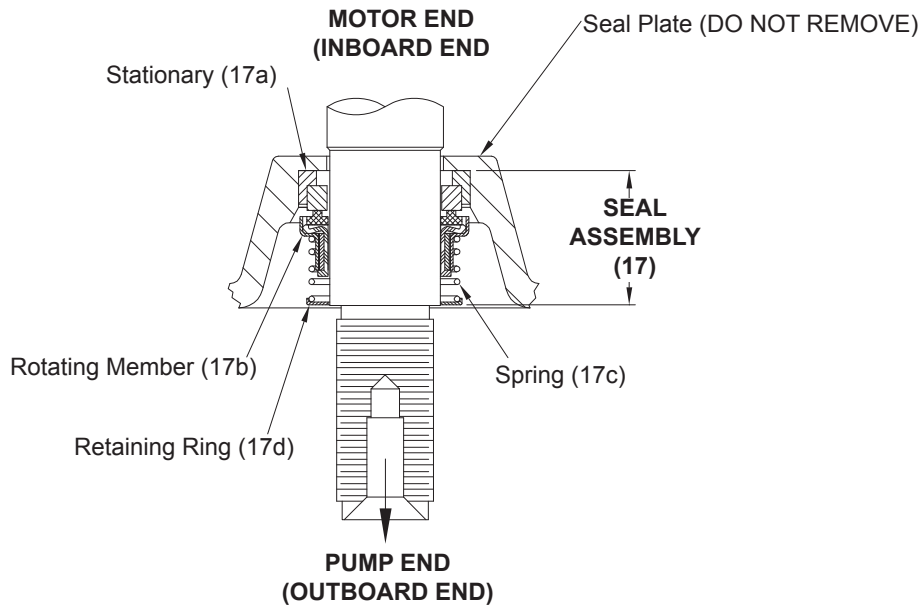

FIGURE 5
Outer Seal - To expose outer shaft seal (17) for examination disassemble volute, cutter and impeller as outlined in paragraph F-3.1. Set pump so that the shaft is in the upright position, this will keep the oil from draining out while servicing the outer shaft seal. To inspect seal further, remove retaining ring (17d), spring (17c) and rotating member (17b) from shaft (see Fig. 5). Examine all seal parts and especially contact faces. Inspect seal for signs of wear such as uneven wear pattern on stationary members, chips and scratches on either seal face. **DO NOT** interchange seal components, replace the entire shaft seal (17). If replacing seal, remove stationary (17a) by prying out with flat screw driver.